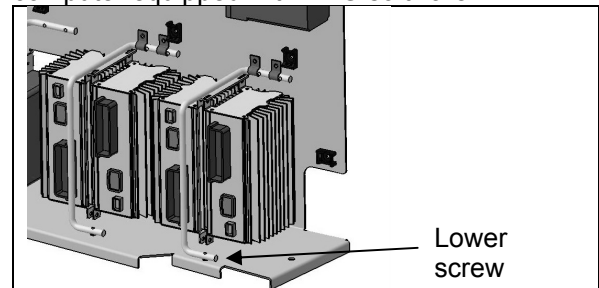

FIGURE 21: IO-B MODULE REMOVAL
- Replace the module (for IO-B modules, disconnect the green connector first, then the grey one and finish with the black connector. To disconnect the black connector, slide downwards the red latch. Remove the lower screw that holds the cable attachment rod onto the floor portion of the panel and flip the rod up, this will relieve the IO-B module, (see Fig. 21).